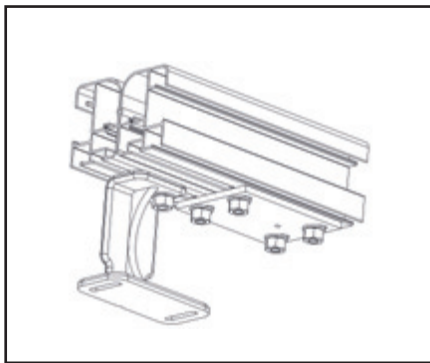

Fig. 14
- Note : the width of the roller box is always 40 mm more than the over-all width of the blind. (see figure 14 page 9)
- Check the attachment points (item 3.4)
see fig. 14 page 9